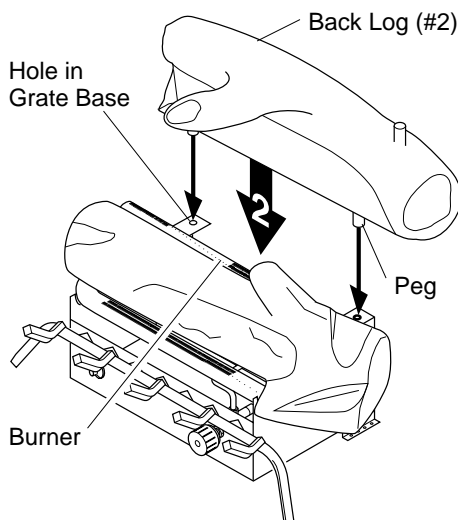

Figure 20 - Installing Back Log (#2)
2. Locate pegs on the bottom of back log (#2). Slide these pegs into the holes in the grate base behind the burner (see Figure 20).